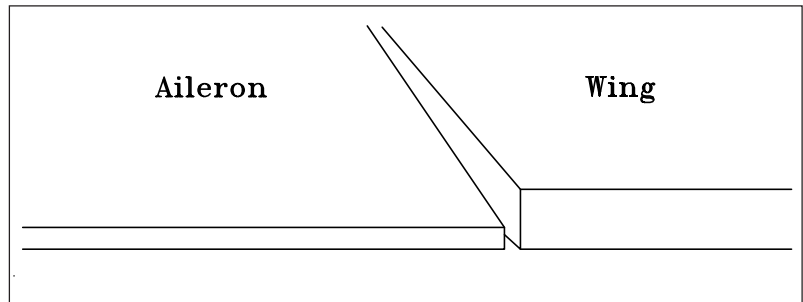

Figure 12 Trailing Edge Alignment
- 4 Check if the ailerons are in 0°-position (The trailing edge bottom of the aileron is in alignment with the trailing edge bottom of the wing as shown in Figure 12).